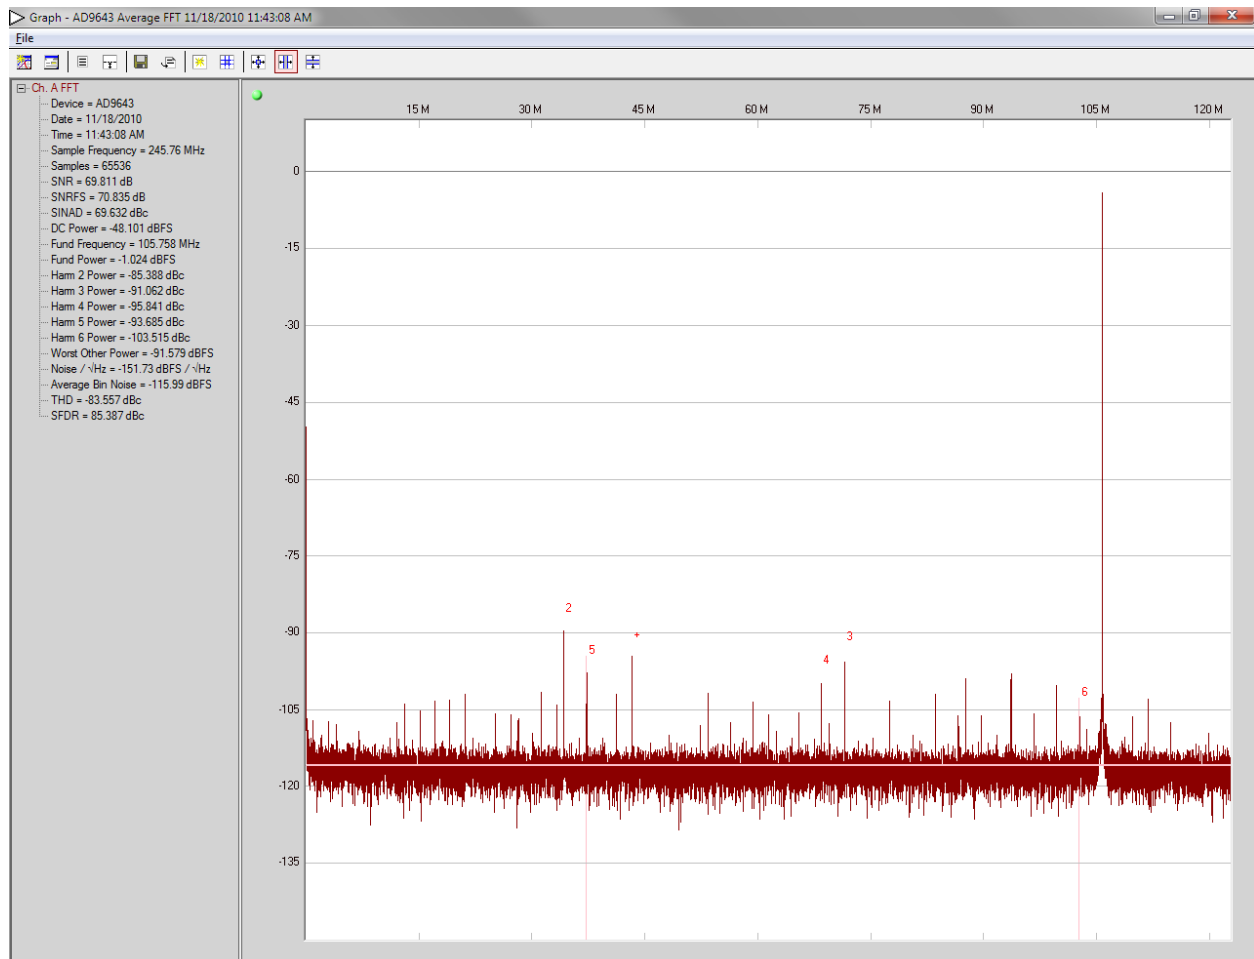

Figure 17. Graph Window of VisualAnalog (AD9643)
1. Adjust the amplitude of the input signal so that the fundamental is at the desired level. (Examine the **Fund Power** reading in the left panel of the VisualAnalog **Graph** window.) See Figure 17.